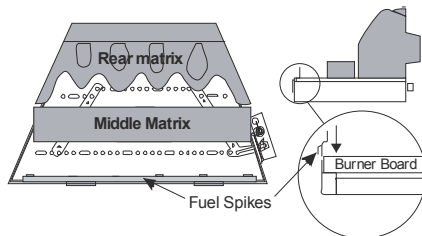

Figure 29
2. Place the **middle matrix** onto the burner board so that it keys into the triangular depression on the board (See Figure 29). Bring the **rear matrix** forward to touch the middle matrix.
3. Insert the front fuel spike centrally between the board and the front of the metal tray (see Figure 29).